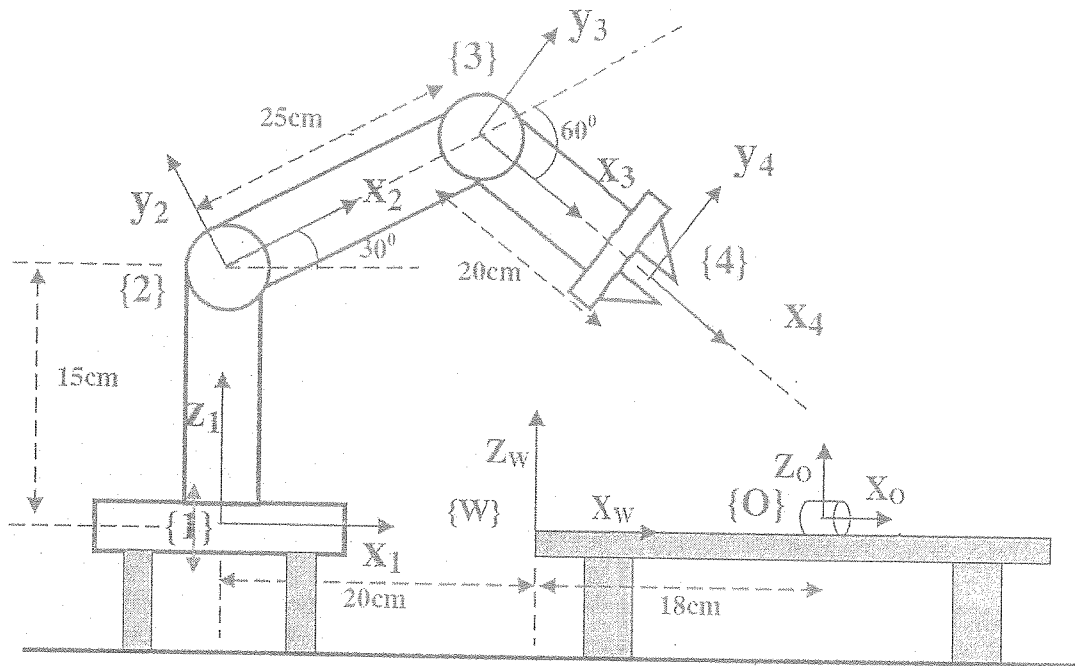

Figure Q2: Robot manufacturing work cell
- Q2. A robot manufacturing work cell is shown in Figure Q2.